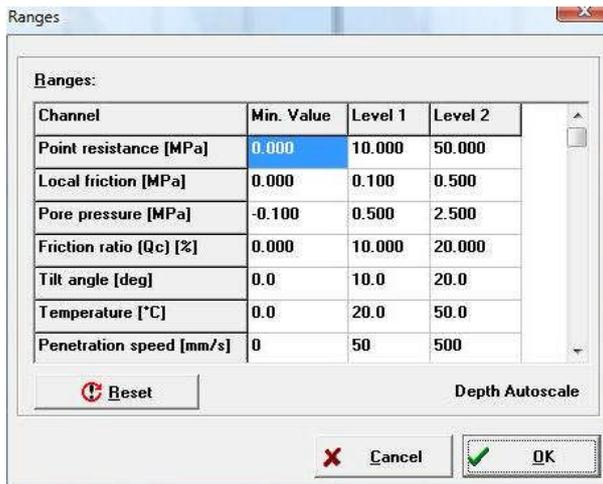

Fig. 3-6: Ranges, Press F6
4. Adapt channel ranges, if needed, from menu Options – **Ranges** – F6 (Fig. 3-6). The smaller value, level 1 (default), the second bigger, level 2 – set automatically if values from range 1 are exceeded.